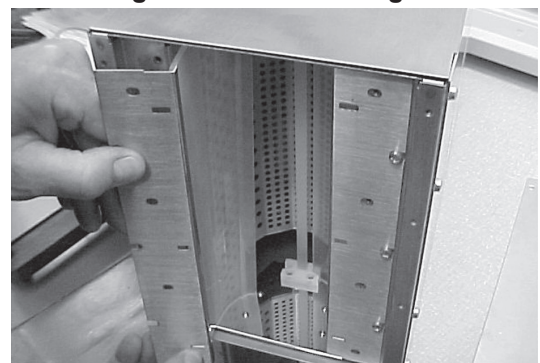

Figure 6-11 Focus Reflector Installation
b. **Flood Reflectors:** See Figure 6-11.